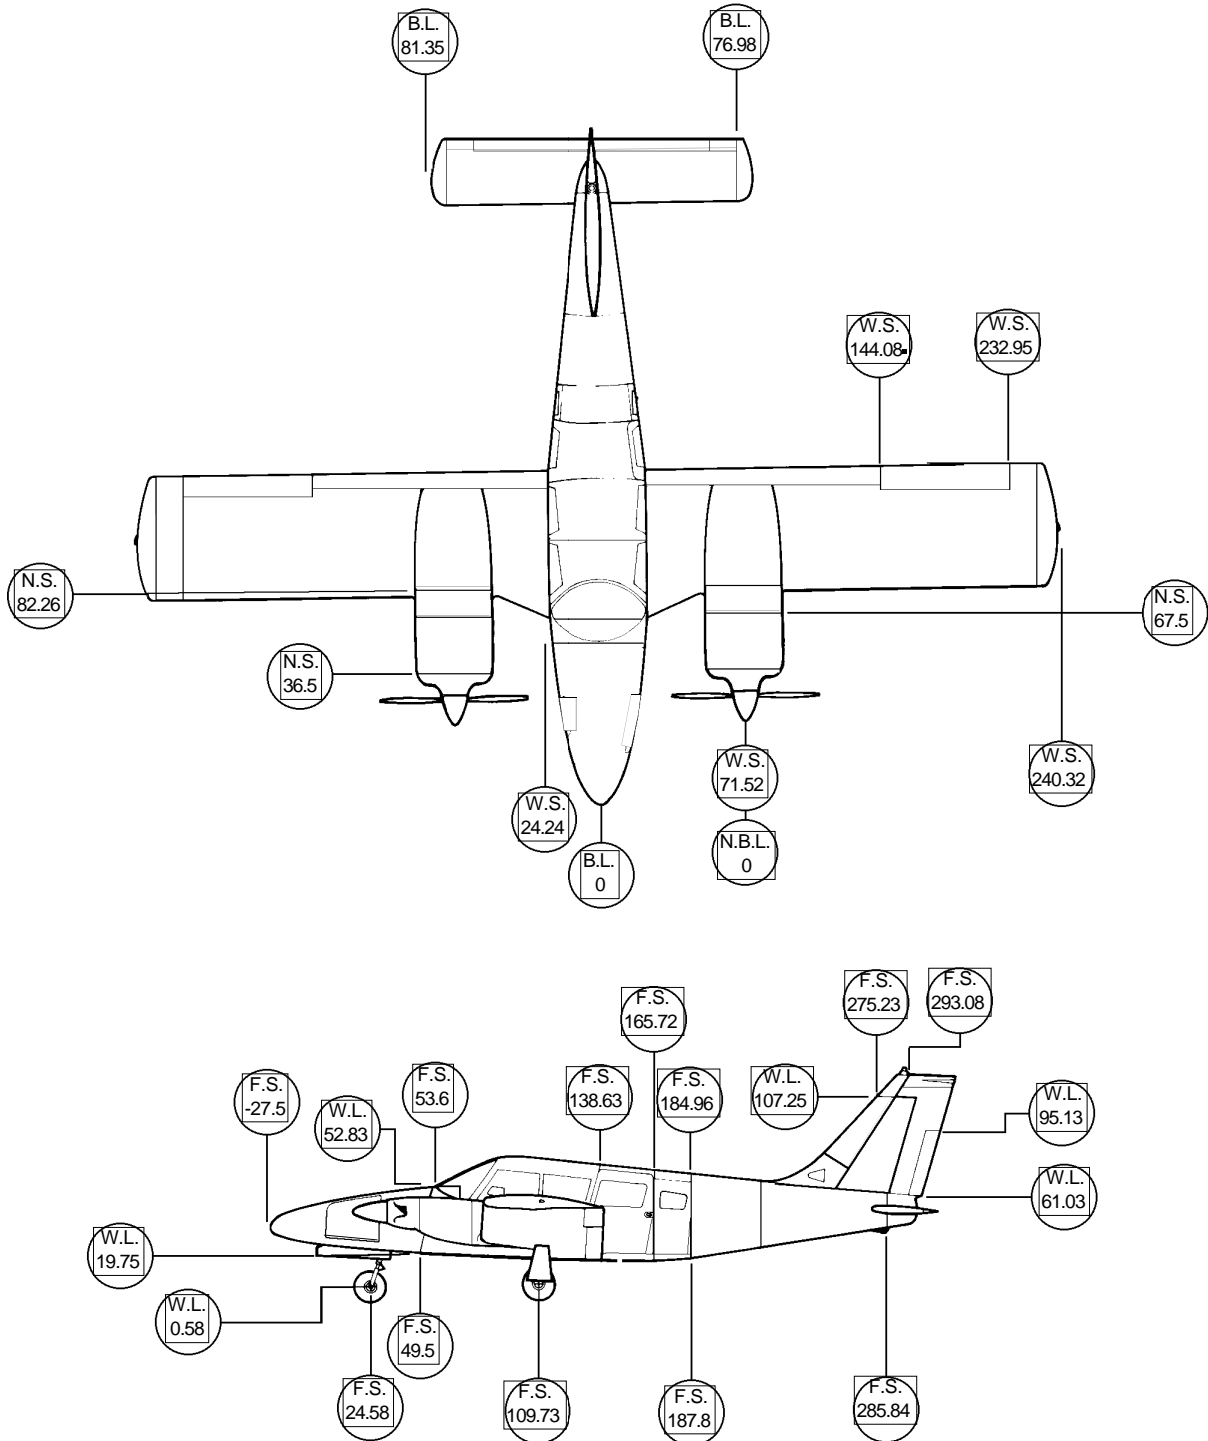

Figure 6-2 Station Reference Lines
In order to facilitate the location of various components of the airplane which require maintenance and servicing, a method utilizing fuselage station (Sta.) wing station or buttock line (BL), or waterline (WL) designations is frequently employed in this manual. (Refer to Figure 6-2). Fuselage stations, buttock lines, and waterlines are reference points measured by inches in the vertical or horizontal direction from a given reference line which indicates station locations of structural members of the airplane.